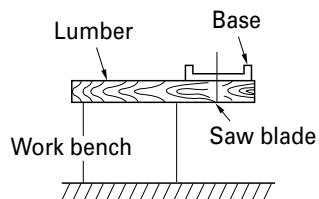

Fig. 7
- Prepare a wooden work bench (Fig. 7)